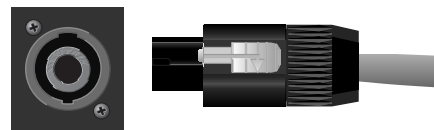
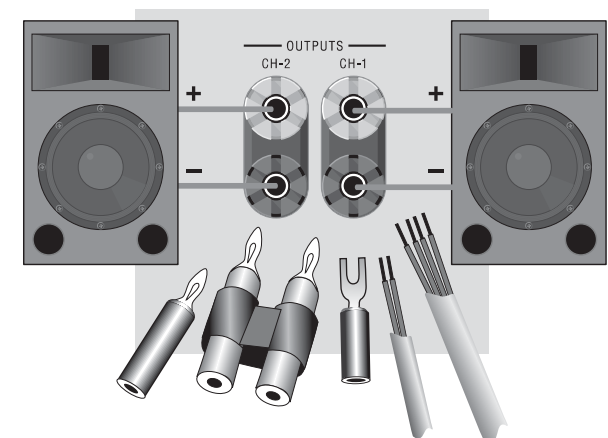

Figure 2.5
Figure 2.6
Crown recommends using pre-built or professionally wired, high-quality, two- or four-conductor, heavy gauge speaker wire and connectors. You may use two 4-pole Speakon® connectors (Figure 2.5 and Table 1) or banana plugs, spade lugs, or bare wire for your output connectors (Figure 2.6). To prevent the possibility of short-circuits, wrap or otherwise insulate exposed loudspeaker cable connectors.
M. Neutrik® Speakon® Outputs: Two Neutrik Speakon NL3MP output connectors (mates with NL4FC). See Figure 2.5 and Table 1 for connector wiring.